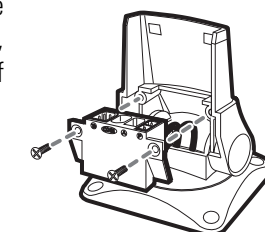

Figure 20
4. Insert the connector holder into place and fasten it to the mounting bracket using the two #6-19 x 3/4" screws (Figure 20). **Hand-tighten only.**